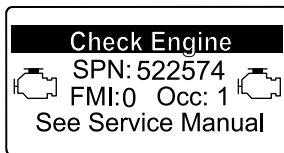

Figura 45
- Engine warning (AVERTISMENT MOTOR) SPN 522574, FMI: 0 (Figura 45)